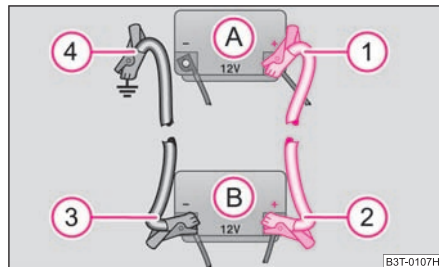

Fig. 207 Jump-starting using the battery from another vehicle: A - flat vehicle battery, B - battery providing current
- Attach one end (1) to the positive terminal ⇒ page 237, fig. 207 of the discharged battery (A).
- Attach the other end (2) to the positive terminal of the battery supplying the power (B).